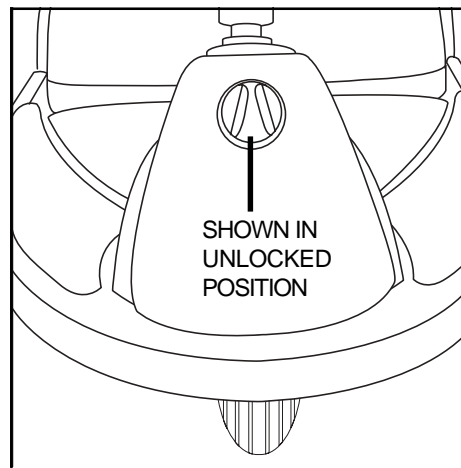

Figure 14. Tiller Lock Knob
2. Lock the tiller in place by positioning it forward then pushing the tiller lock knob inward and turning it clockwise 90 degrees. See figure 14.